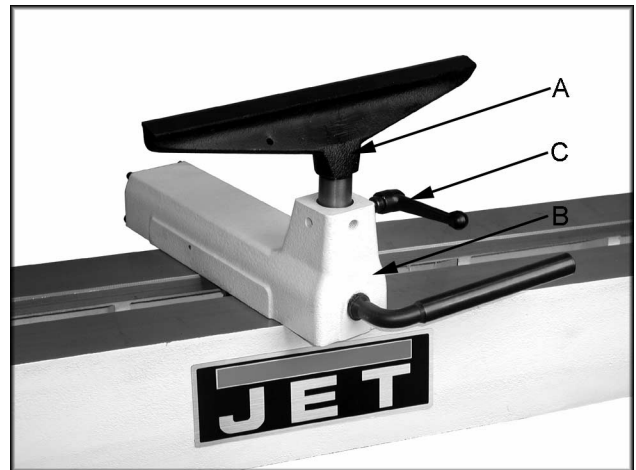

Fig. 1
- 1. Secure tool rest (A, Fig. 1) to tool rest body (B, Fig. 1) by tightening handle (C, Fig. 1).